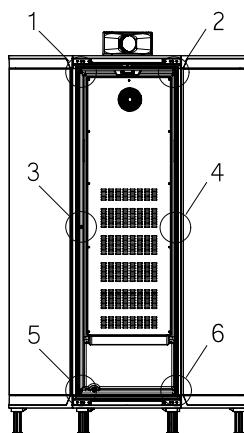

Fig. 8-11
8. Grasp the cord from the roof element and connect this cord to the cooling unit, to connect the black terminal. Grasp the cord from side wall elements and connect these cords to the cooling unit, with the white terminal. Check that the power cable could be reached after installation (figure 8-9/8-10)! When lifting the cooling unit into niche start in the bottom before pressing the unit into the top of the niche. Continue tightening the 6 white screws (3-4) supplied with plastic washers seen in (figure 8-11). Tighten them according to number 1-6-2-5-3-4.